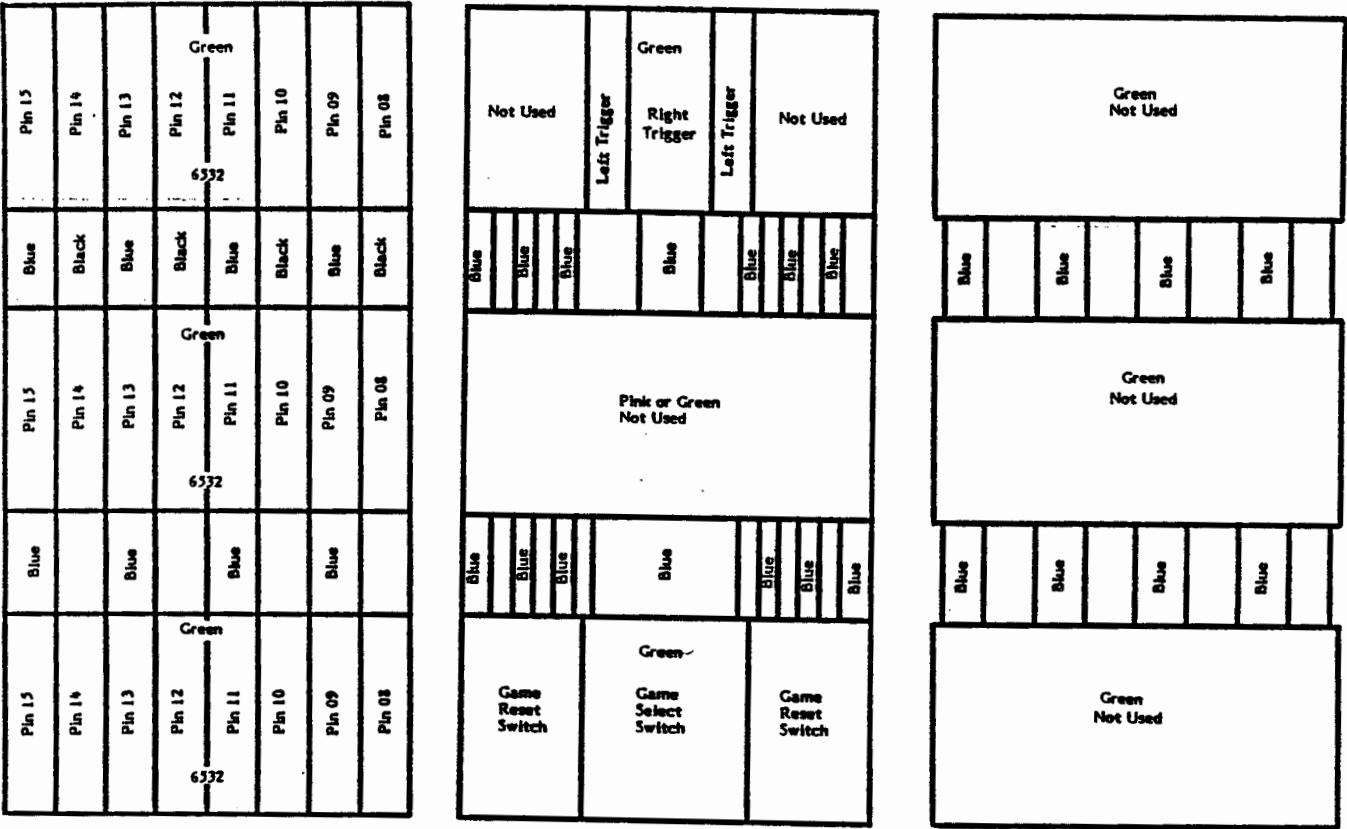

Figure 3-11. Diagnostic Matrix Screen (Shorting Plugs IN)
2. The shorting plugs are then inserted and the pattern should look like Figure 3-11.